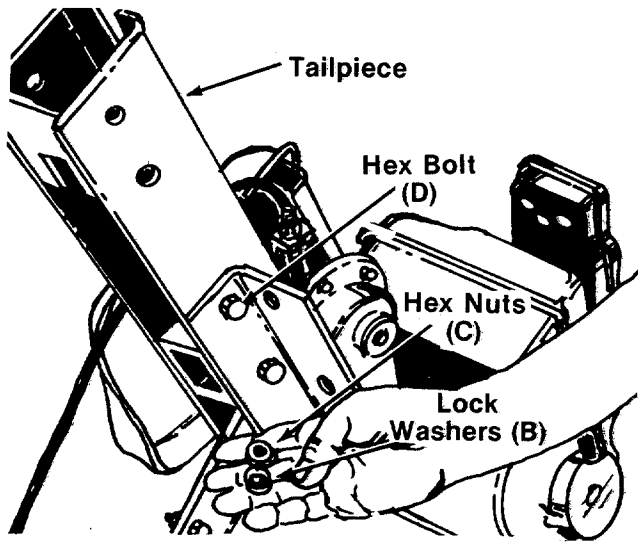

FIGURE 4.
4. Secure the tailpiece to the rear frame rails with two hex bolts (D), lock washers (B) and hex nutx (C). See figure 4. Tighten all four hex bolts and nuts securely. Two 1/2" wrenches are required.